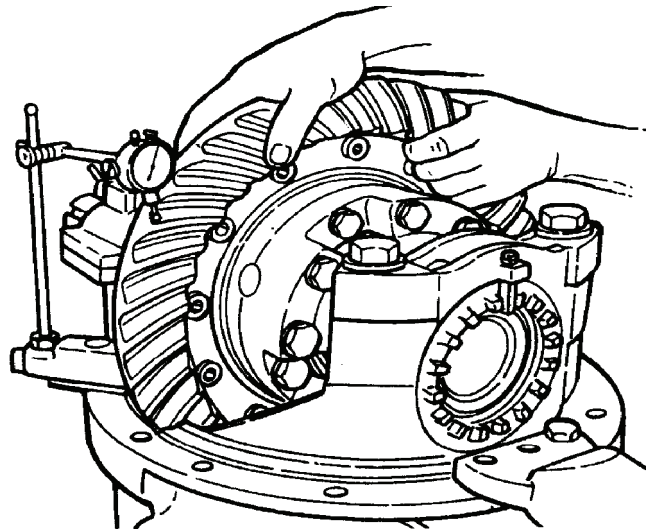

Figure 8. Checking Ring Gear Backlash.
- (1) Turn the carrier so that the ring gear is toward you.
- (2) Install a dial indicator on the flange of the carrier. Put the tip of the indicator against the "drive" side of a tooth on the ring gear. Adjust the dial indicator to the "zero" (0) setting. Figure 8.